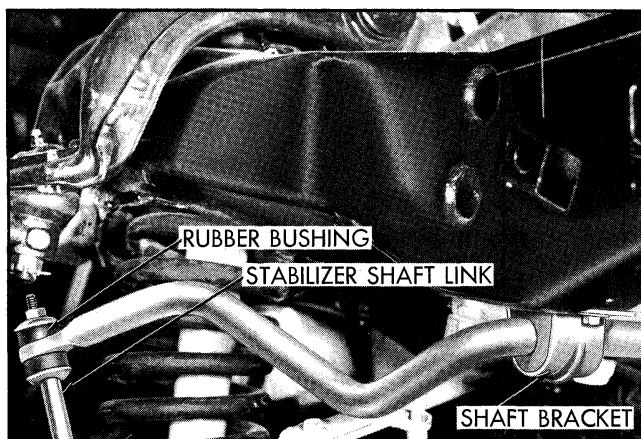

Fig. 3-24 Stabilizer Shaft Assembly
1. Disconnect both links from stabilizer shaft by removing nut from link and rotating shaft up from lower control arm (Fig. 3-24).